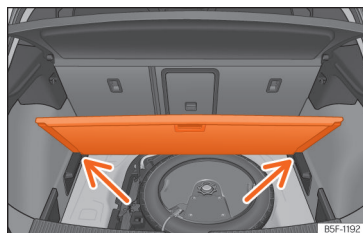

Fig. 183 Variable boot floor: tilted position.
- Rest the floor on its housings »» Fig. 183 [arrows].